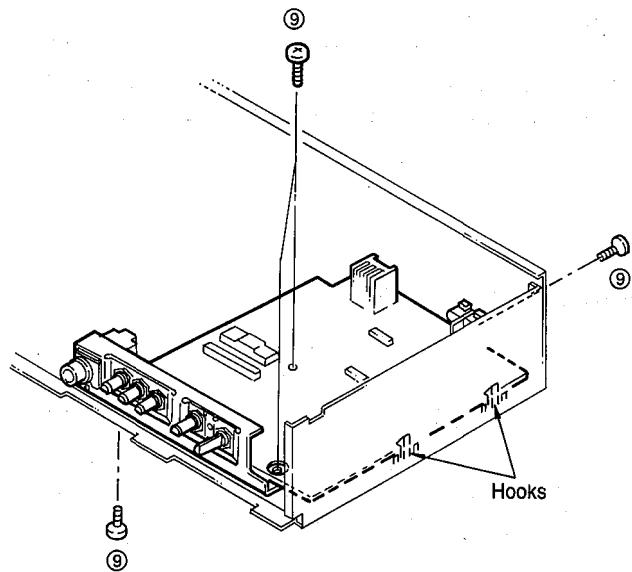

Fig. 9
- a. Remove 4 screws (⑨) and detach 2 hooks in fig.9.